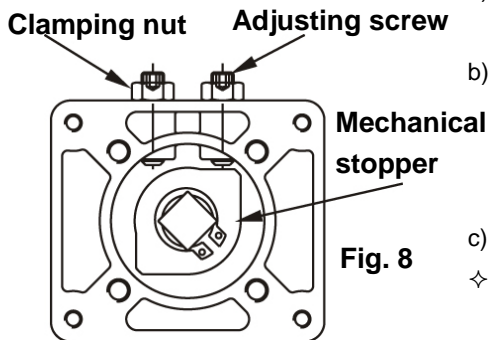

Fig. 8
2. Mechanical limiter adjustment (Fig. 8)